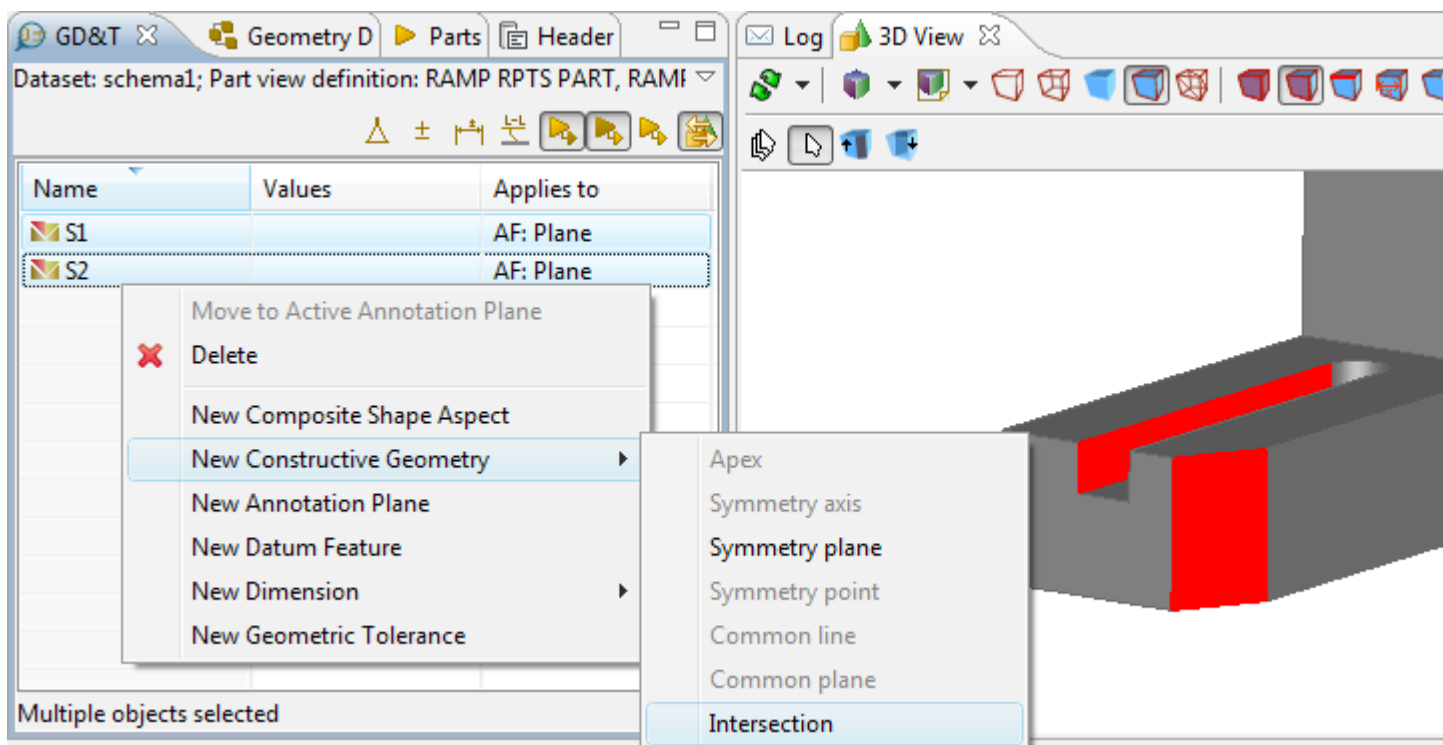

Figure 1. Selected items: plane and cylinder, menu item to create intersection in GD&T view and plane and cylinder in 3D View
- Right click and select **Create Constructive Geometry -> Intersection** item in the appeared context sensitive menu (see Figure 1).